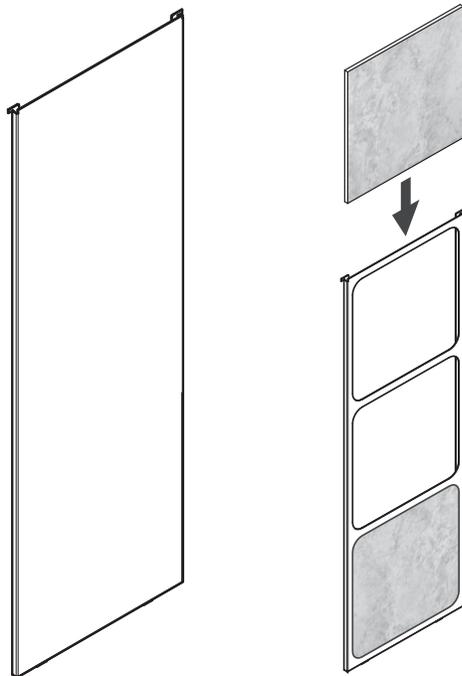
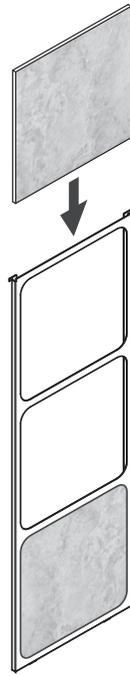

Figure 24.1
Figure 24.2
Your appliance ships with two different side options, one is a solid side panel (**Figure 24.1**) and tile side panel (**Figure 24.2**). There are two of each and no left or right side, these can be changed at anytime.
3. Stack non-combustible material tiles in tile frame as shown in **Figure 24.2**.